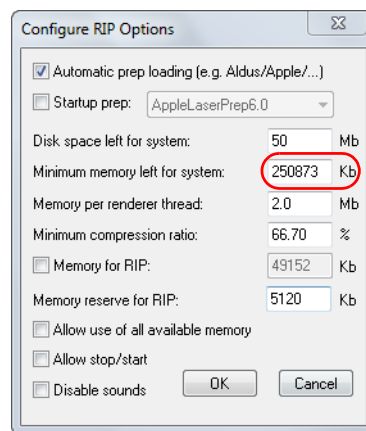

Figure C.2 The Configure RIP Options dialog
7. Enter the figure of 69000 in the Minimum memory left for system box of the Configure RIP Options dialog, as shown Figure C.2.